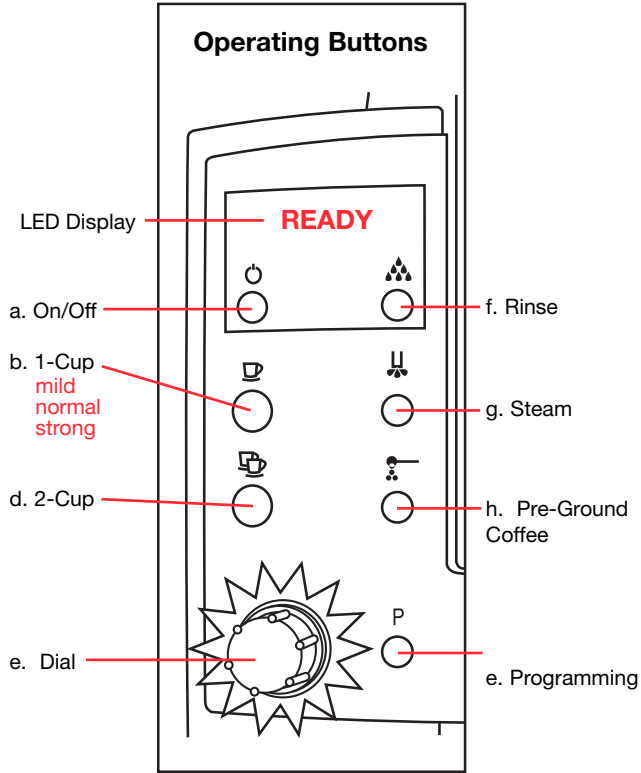

Fig. 3
2. Operating Buttons (See Fig. 3)